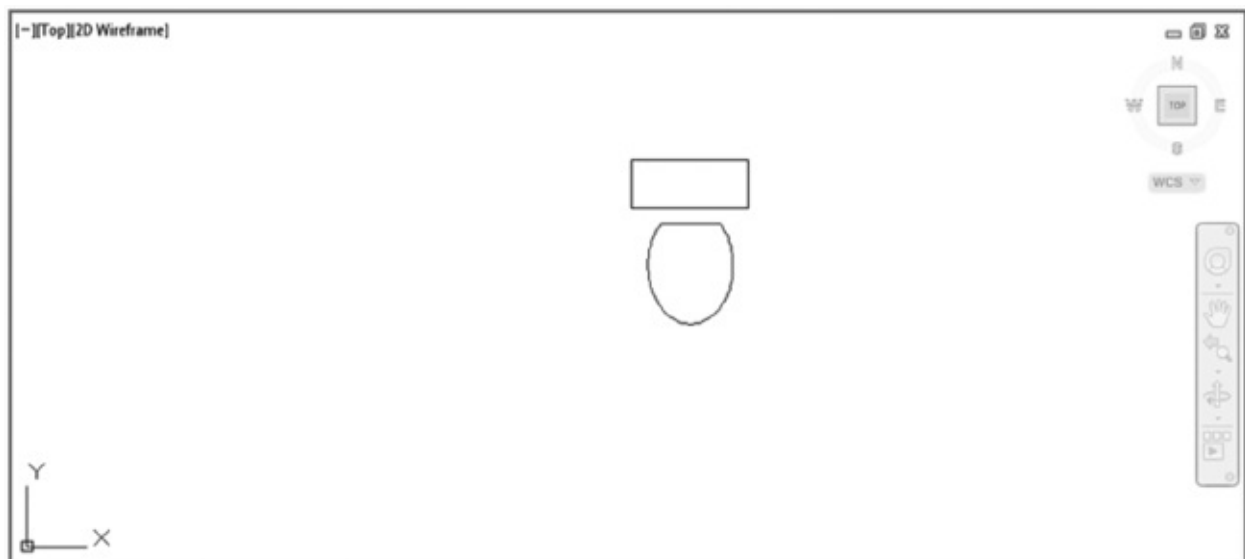

FIGURE 3.8 The view of the finished toilet after using the Zoom Previous tool. You can also obtain this view by using the Zoom All tool from the Zoom flyout.
1. Return to your previous view, shown in Figure 3.8. A quick way to do this is to type **Z** ↵ **P** ↵, or if you are returning to the file after closing it, type **Z** ↵ **A** ↵ or use the Zoom All option. Your view returns to the one you had before the last Zoom command.